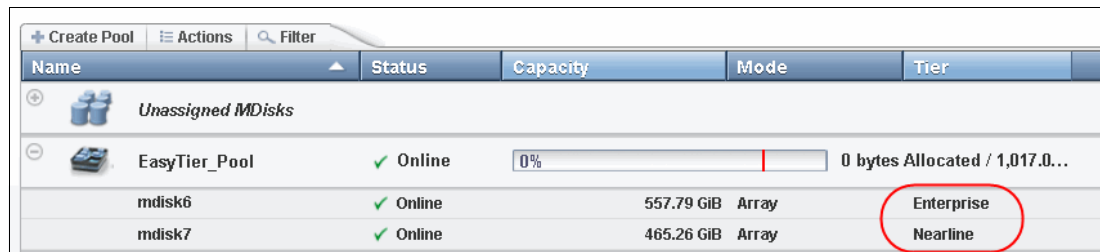

Figure 9-20 Easy Tier active
- In Figure 9-20, you see that the EasyTier_Pool Storage Pool contains Enterprise MDisk and Nearline MDisk types.